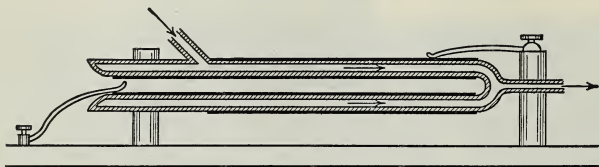

Fig. 29. Apparatus for generating ozone.
39. A modification of oxygen. When electric waves are passed through oxygen, energy is absorbed and a second modification of the element, called **ozone**, is produced. The apparatus employed on the lecture table for obtaining small quantities of ozone is shown in Figure 29. The double-walled tube is
adjunct to ventilation, especially to remove odors, in such places as tanneries, slaughter-houses, and fertilizer plants, and in overcrowded rooms. The use of ozone for disinfecting the air of hospitals, halls, and theaters is unwise, as it has little action upon the bacteria of the air and is irritating to the lungs. Ozone, however, is an efficient disinfectant for *water*. For this purpose air is charged with ozone by passing it through an apparatus similar in principle to that shown in Figure 29. This ozonized air enters at the bottom of a tall tower, to which the water, previously filtered, is admitted at the top. Perforated plates at intervals in the tower divide the ozonized air into numerous small bubbles to secure intimate contact between the ozone and the water. The water, flowing from the bottom of the tower, is found to be almost completely sterilized. The municipal water supplies of Paris, Petrograd, Lille, and many other European cities are treated by this method.